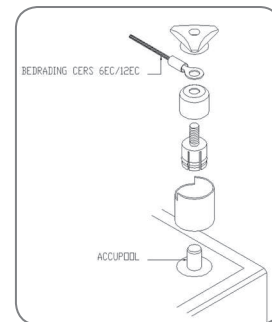

Figure 3.04
- Fasten the battery clips as shown in figure 3.04. Make sure that the fuse holder is just outside of the battery housing.